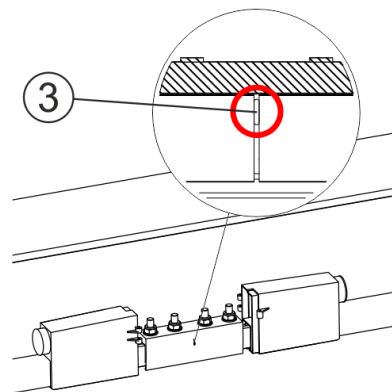
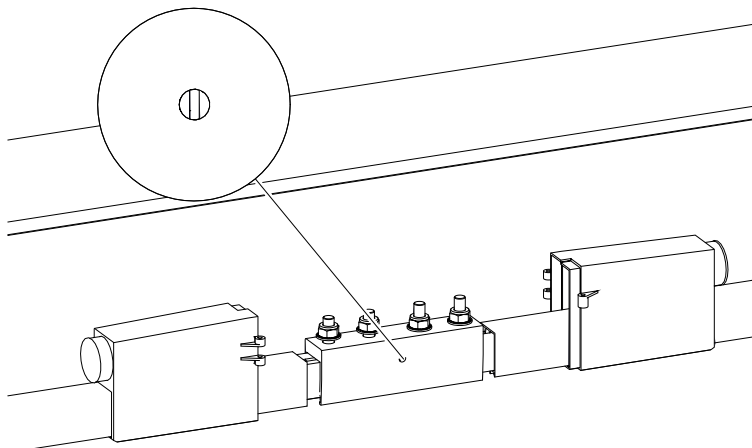
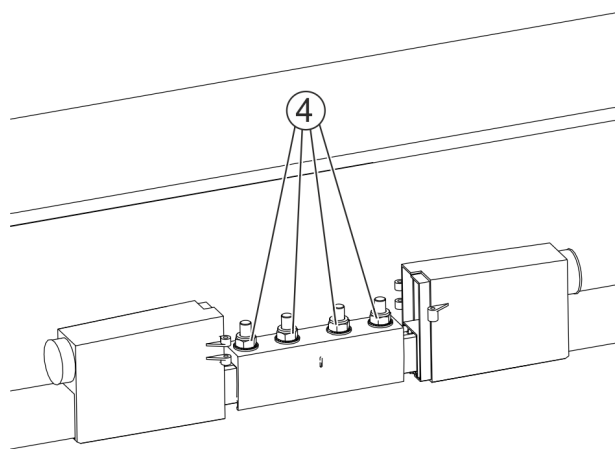

Fig. 73: Connector with stopper (Pos. 3) (aluminum-stainless steel or CopperECO conductor rail) - slid into both conductor bar ends
Fig. 74: Connector with inspection window (copper conductor rails)
Fig. 76: Tighten M10 nuts
**In the case of aluminum-stainless steel conductor rails as well as CopperECO, there is a stopper that ensures the functionally necessary gap of 2 to 3 mm between the rail ends. In the case of copper conductor rails, there is an inspection window instead (see Fig. 74) to check whether the gap is being maintained!**
- Mount the connector (Pos. 4) with tubular cable lug (Pos. 5) as described in Section 6.4.3.3 (see Fig. 76). Tighten the screw connection with the specified torque (SW 17, torque wrench: **31 Nm**). In the case of copper rails, check via the inspection window whether the ends of the conductor rails are 2 to 3 mm apart (see Fig. 74). With the other conductor bars, it must be ensured that the ends of the conductor rail are in contact with the stopper in the connection plate (see Fig. 73).